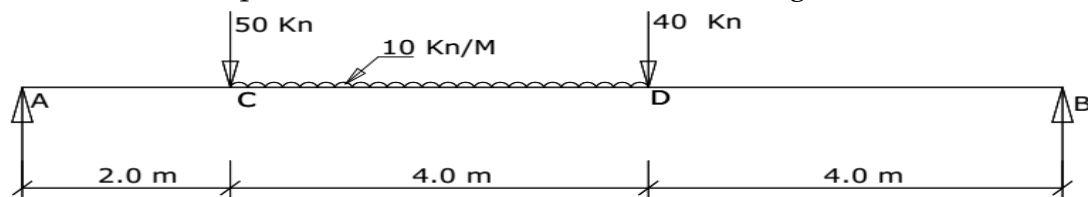

Figure 1(a)
- a) For the elevation of the beam shown on figure 1(a), determine the reaction at supports and draw the **shear force diagram to determine the point of contra flexure**, from this point, determine the maximum bending moment.
- b) For the bar on figure 1(b) below which is applied to several axial loads P_1 , P_2 , P_3 and P_4 . Determine the magnitude of the force P_2 and the overall extension of the bar.